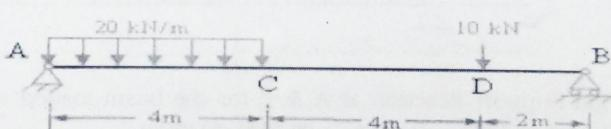

Fig 2.55
- 2) Draw FBD for a given beam shown in fig 2.55.